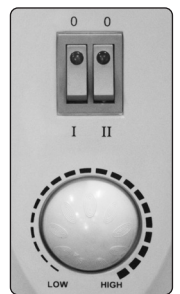

fig.2
- 5.1. **HEATING SETTINGS** fig.2